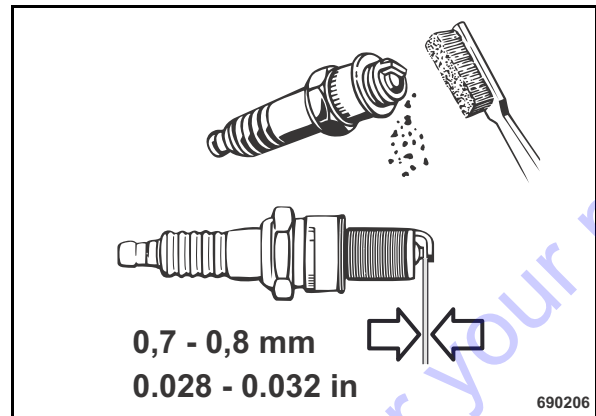

Fig. 53
- Check the spark plug (Fig. 53) visually and clean it if necessary.